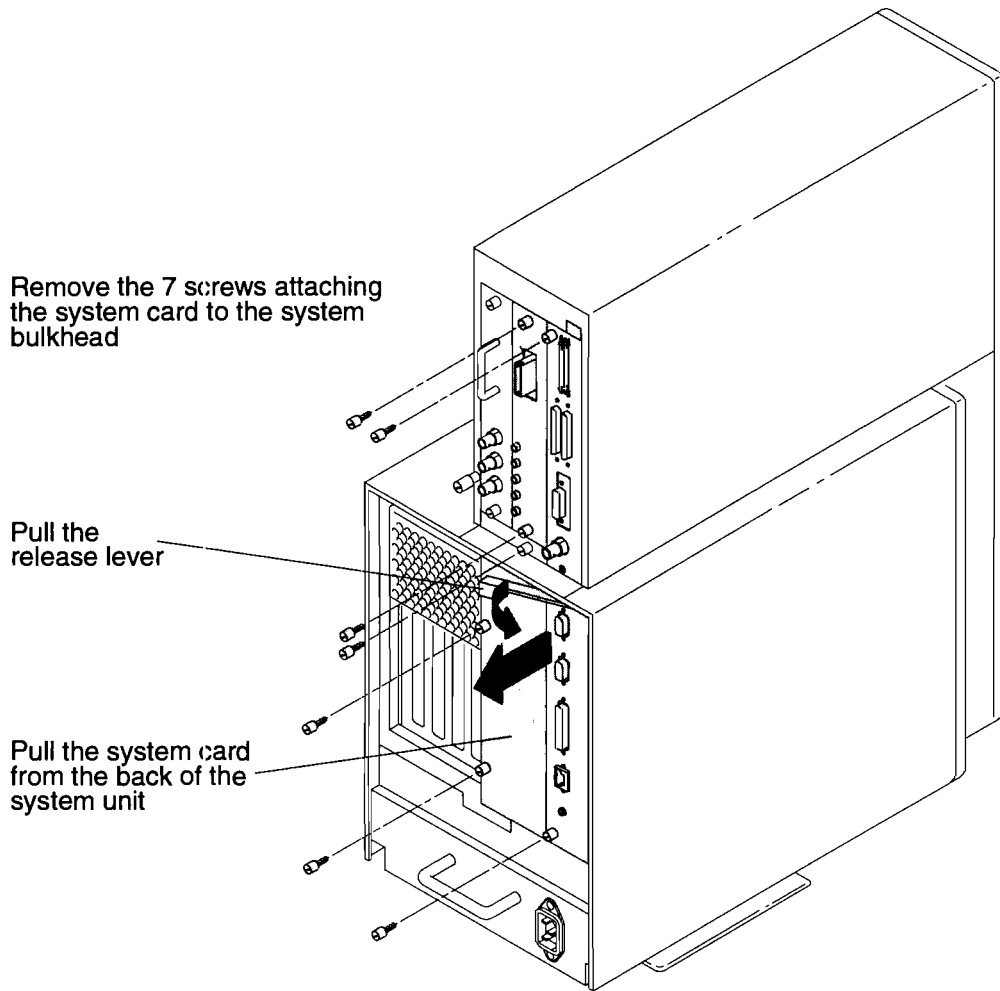

Figure B-3. Removing the System Card (system with FDDI installed)
- 1.** Use a straight slot screwdriver to remove the seven screws that hold the system card and audio board to the system bulkhead, as shown in Figure B-3.
- 2.** Pull the release lever, as shown in Figure B-3.